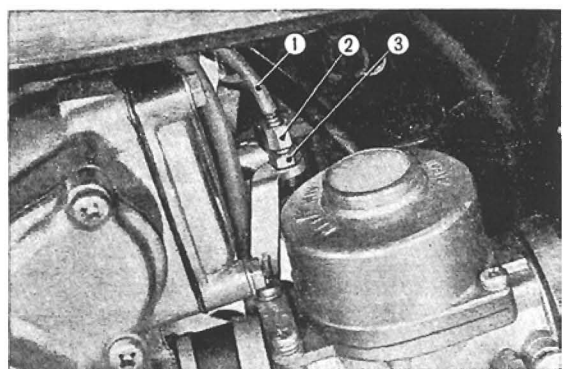

Fig. 4.6 Removing the throttle cable
- ① Throttle cable
- ② Throttle cable adjuster
- ③ Lock nut
4. Disconnect the throttle cable at the lower end by loosening the cable setting nut at the cable support arm on the carburetor and then disconnecting the throttle cable from the carburetor. (Fig. 4.6)